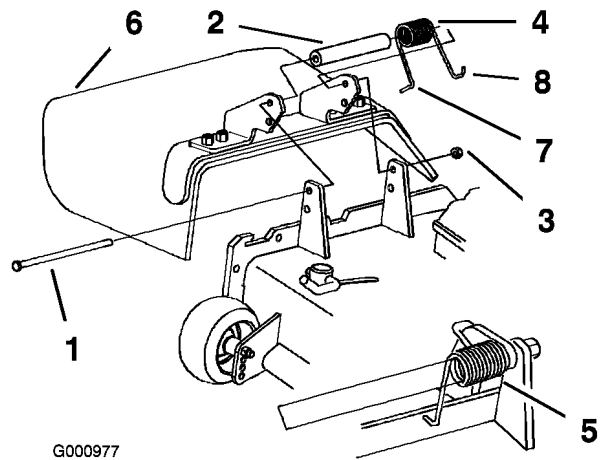

Figure 85
1. Remove the locknut, bolt, spring and spacer holding the deflector to the pivot brackets (Figure 85). Remove the damaged or worn grass deflector.
Note: Make sure the L end of the spring is installed behind the deck edge before installing the bolt as shown in Figure 85.
3. Install the bolt and nut. Place the **J** hook end of the spring around the grass deflector (Figure 85).